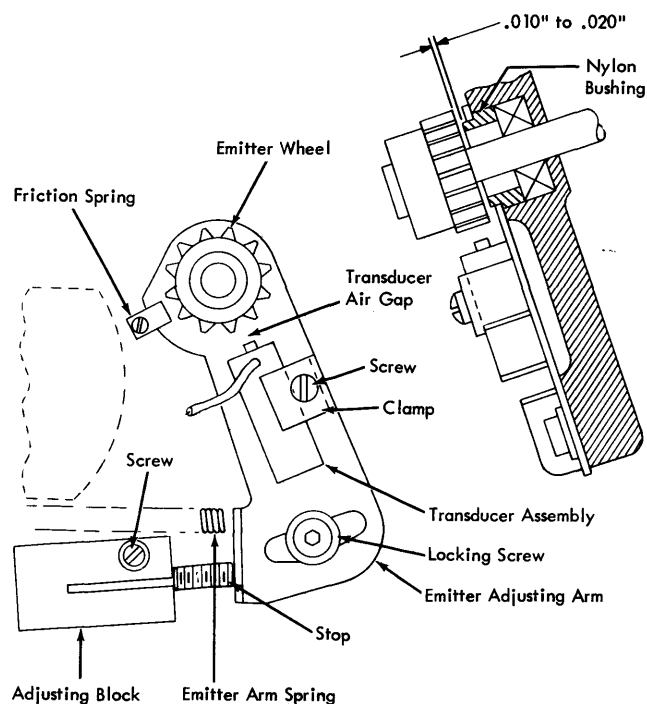

Figure 54. E-1 Magnetic Emitter
1. The emitter wheel should be .010" to .020" from the nylon bushing as shown in Figure 54.
2. Loosen the transducer clamp screw, and adjust the transducer for .008" clearance to the emitter wheel. Figure 54 shows the transducer air gap.
This adjustment is for Models 1 and 2 only. Adjust the emitter-adjusting arm (see Figure 54). Timing should